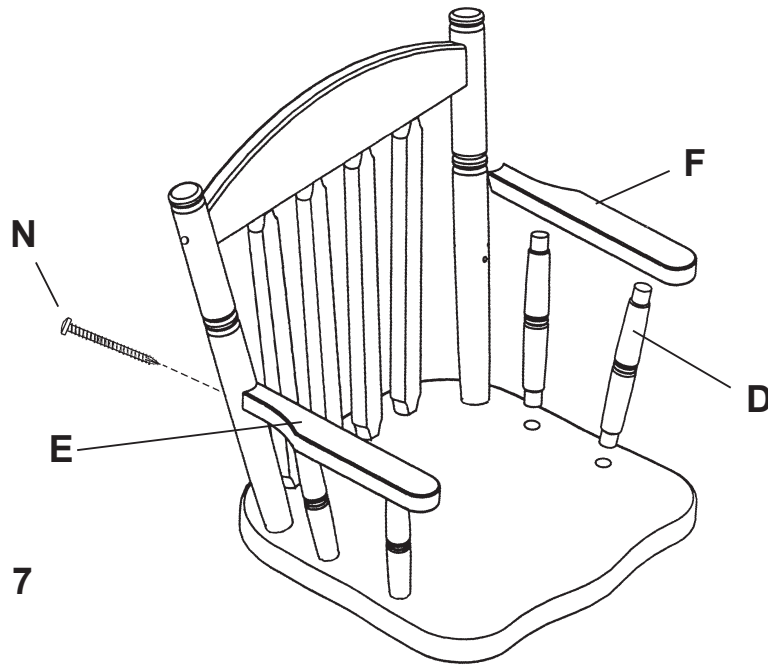

FIG. 7
- 7) Spread glue evenly in the four arm spindle holes in the seat. Put the Arm Spindles (D) in the holes making sure that the shoulders are in contact with the seat. Spread glue lightly in the holes in the Left and Right Arms (E&F), then work the arms onto the spindles. Both arms should be snug against the backposts. Be careful not to scratch the backpost with the arms while doing this.
Insert #8 x 2 $\frac{1}{4}$ " Brass Pan Head Screws (N) through the holes in the backposts into the arms and tighten firmly. See FIGURE 7.